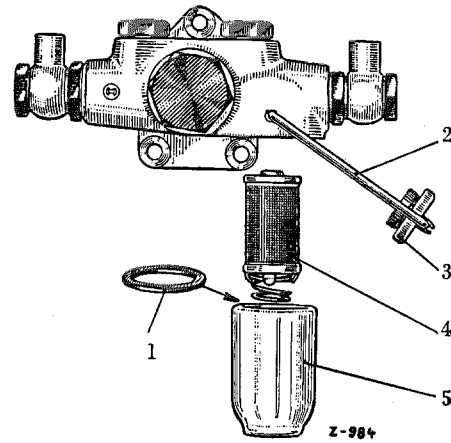

Figure 09-5/3
- b) **Built-in Engine** (Feed pump with pre-filter see Figure 09-5/3).
Loosen the knurled nut (3), put aside the clamping bracket (2) and remove the housing (5). Thoroughly clean the wire gauze element (4) with brush in clean gasoline; do not use wire brush. The gasket (1) becomes hard and unserviceable after a certain time; therefore, replace the gasket in time to prevent infiltration of air! During assembly make sure that the clamping bracket is vertically seated and that the knurled nut is secured tightly (see Figure 09-5/3).